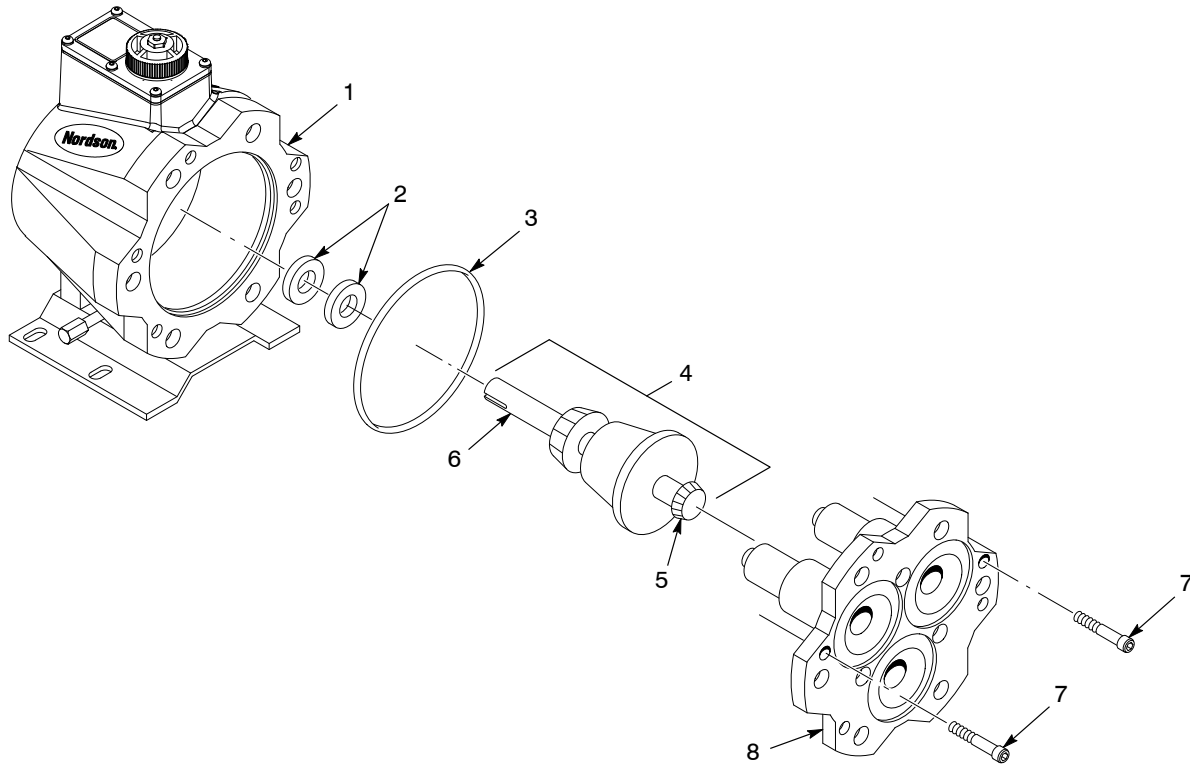

Figure 9 Pump Housing Disassembly
4. See Figure 9. Remove the bolts (7) securing the cylinder casting (8). To even the load from the springs, alternate turns on the bolts.
6. Remove the cam shaft assembly (4) from the pump housing (1). Inspect the shaft (6) for burrs. If any burrs exist, smooth them out.
7. Inspect the cam shaft assembly bearings (5) and bearing race for any damage or wear. Replace the pump if they are damaged or worn.
8. Remove the O-ring (3) from the pump housing.